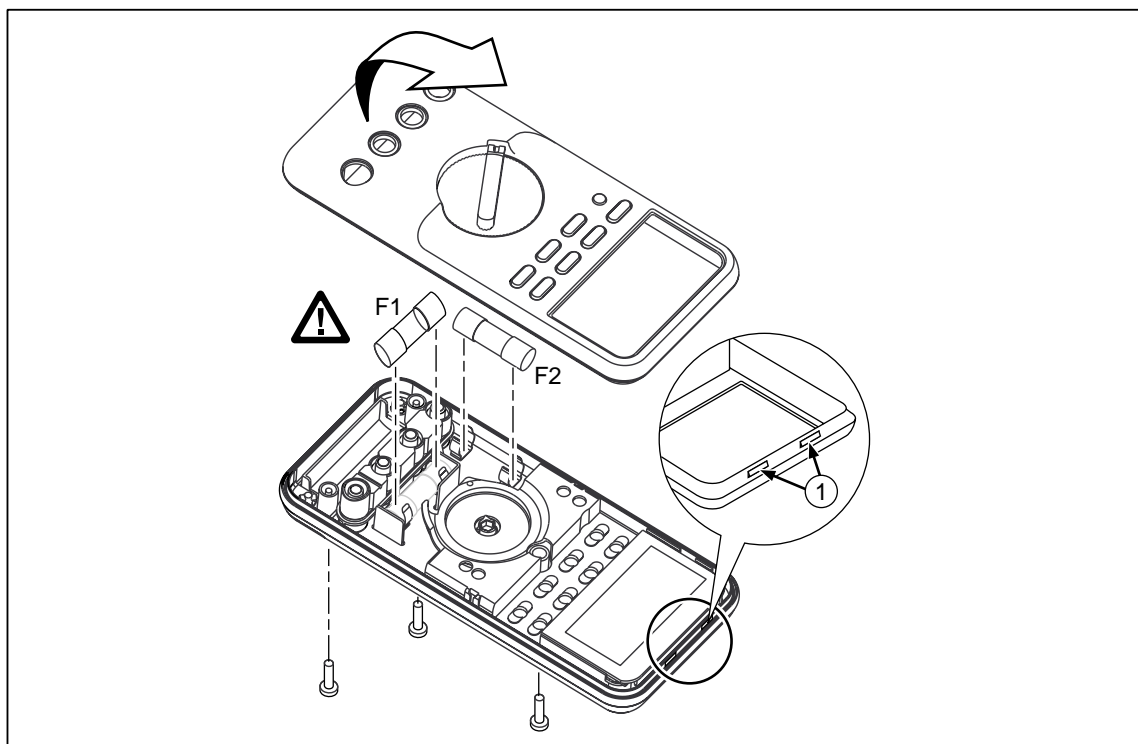

Figure 2. Replacing a Fuse
#### To replace a fuse, refer to Figure 2 and do the following:
8. Place the case top on the case bottom, ensuring that the gasket is properly seated and the case halves snap together above the LCD end. (See Figure 2.)